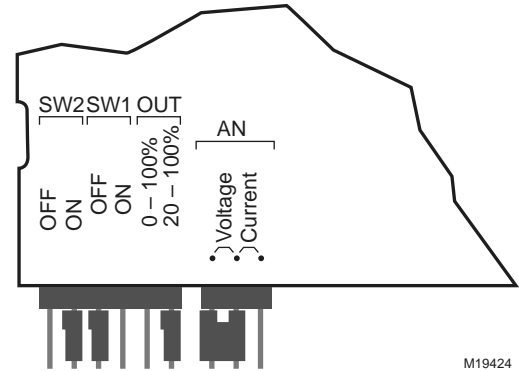

Fig. 7. C7232 default jumper settings.
- On duct models, remove the screw holding the board in place to view jumper settings on reverse. (See Fig. 7.)